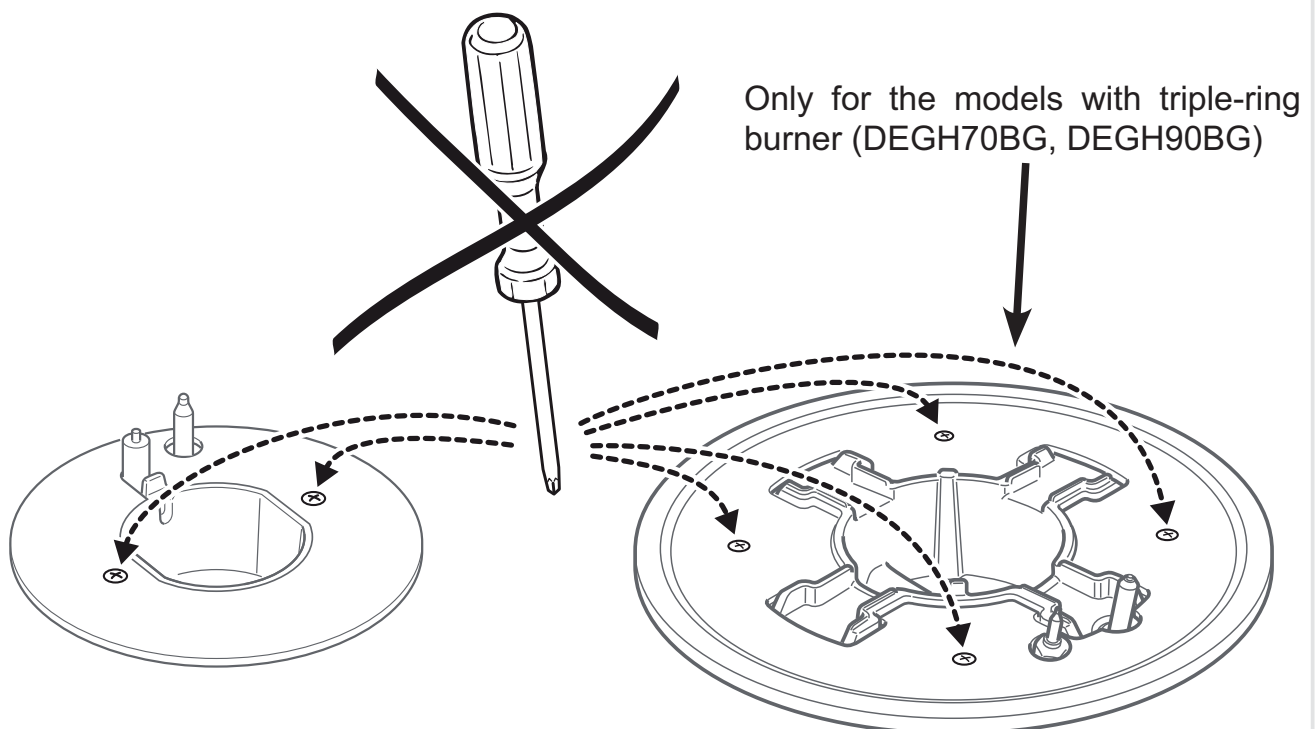

Figure 17
**NEVER** unscrew the burner plate fixing screws (fig. 17).